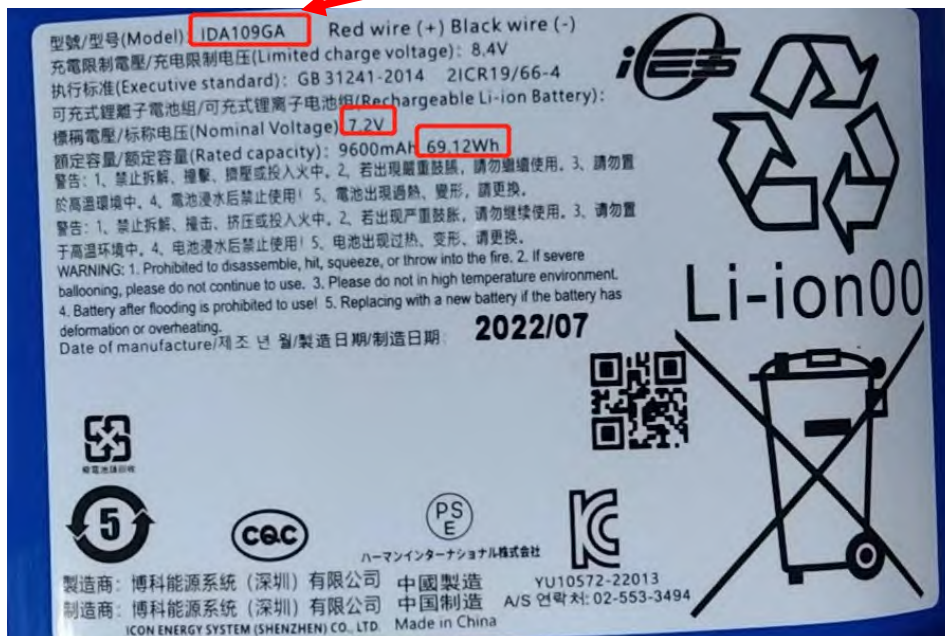

Fig. 6
- 2) Battery w/GP cell +TI gauge IC (PN 41700227), Model = **IDA109GA**, Nominal Voltage=7.2V, rated capacity=69.12Wh indicated, as shown in Fig. 6.
- 3) Battery w/GP cell + SINO GAUGE IC (PN 41700236), Model = **IDA109GA**, Nominal Voltage = 7.2V, Rated capacity=69.12Wh indicated, as shown in Fig. 6.